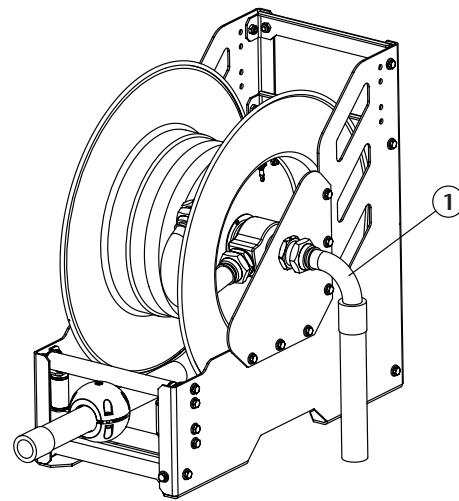

Fig. 9
1. Disconnect the hose of the inlet shaft (1) (Fig. 9).